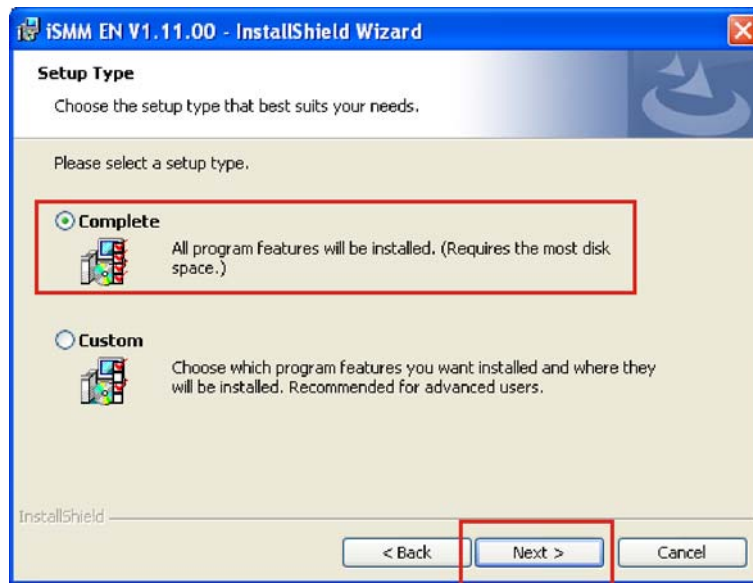

Figure 6-40: iSMM Setup Type
Step 15: The **Setup Type** screen appears. (Figure 6-40)
Step 16: Select **“Complete”** (Figure 6-40)
Step 17: Click **NEXT** to continue. (Figure 6-40)